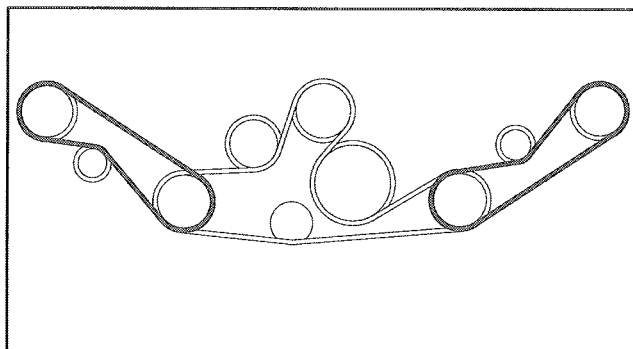

Figure 21
5. Route new belts around spindle pulleys and thru idler pulley assemblies as shown in figure 21.